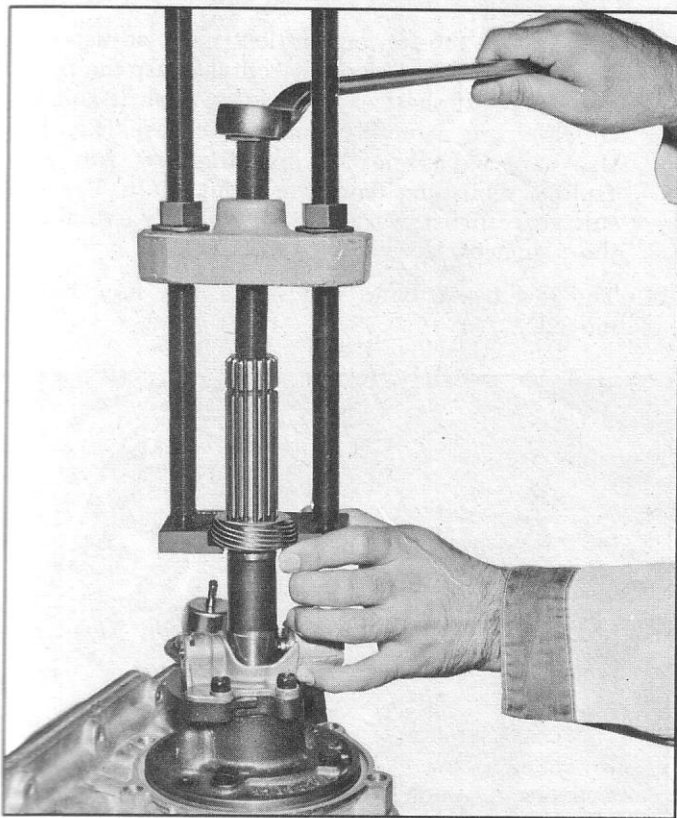

Fig. 9—Removing Speedometer Drive Gear
5. Remove the speedometer drive gear from output shaft, using J-5814 (fig. 9).